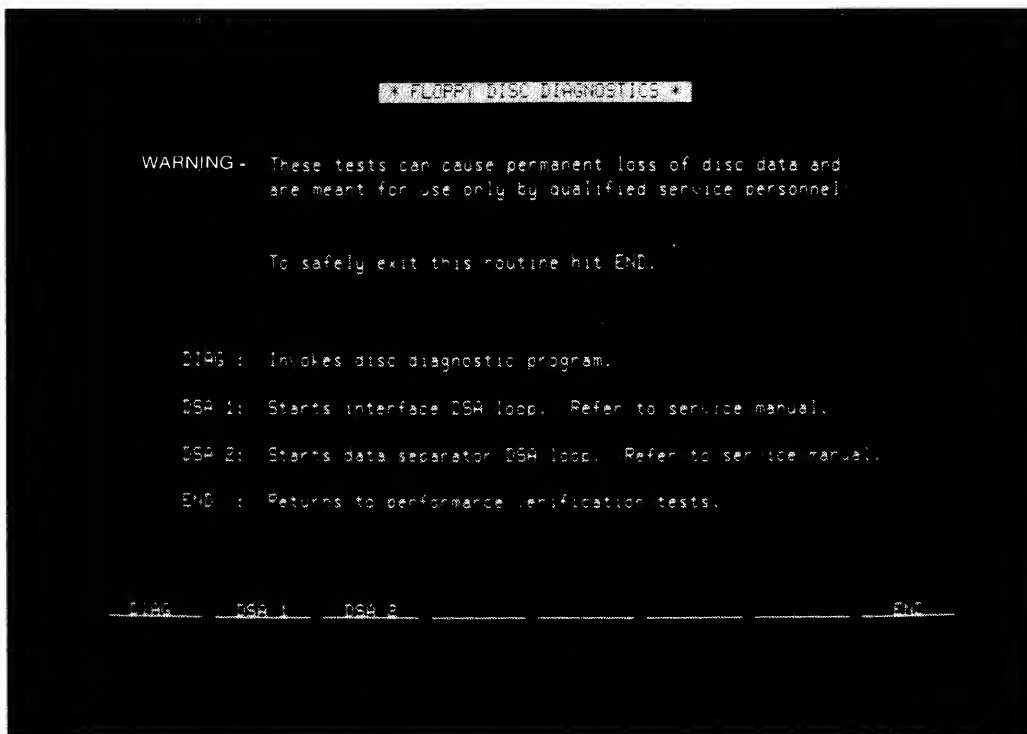

Figure 4-5. Floppy Test Menu Second Level
- e. Set up desired tests and press the TEST soft key to initiate. Figure 4-5 should be displayed.